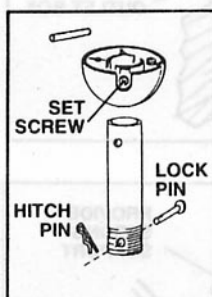

FIG. 7
Step 3. Remove downrod hanger ball by loosening set screw, removing the cross pin, and sliding ball off rod. Re-move the hitch pin and lock pin. (Fig. 7)